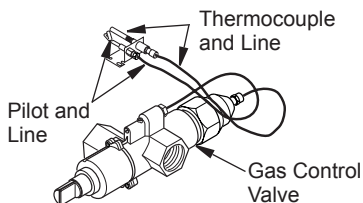

Figure 9 - Gas Control Valve with Thermocouple and Pilot
2. Attach pilot gas line to pilot outlet of gas control valve and tighten. Connect thermocouple to rear of gas control valve. See Figure 9. Do not overtighten. If using propane/LP gas, see Changing Pilot Orifice, page 12.